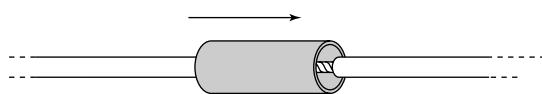

FIGURE 9-6: Slip heat-shrink tubing over connection.
5. When the solder connection is completely cool, slip the heat-shrink tubing over the connection (see Figure 9-6).